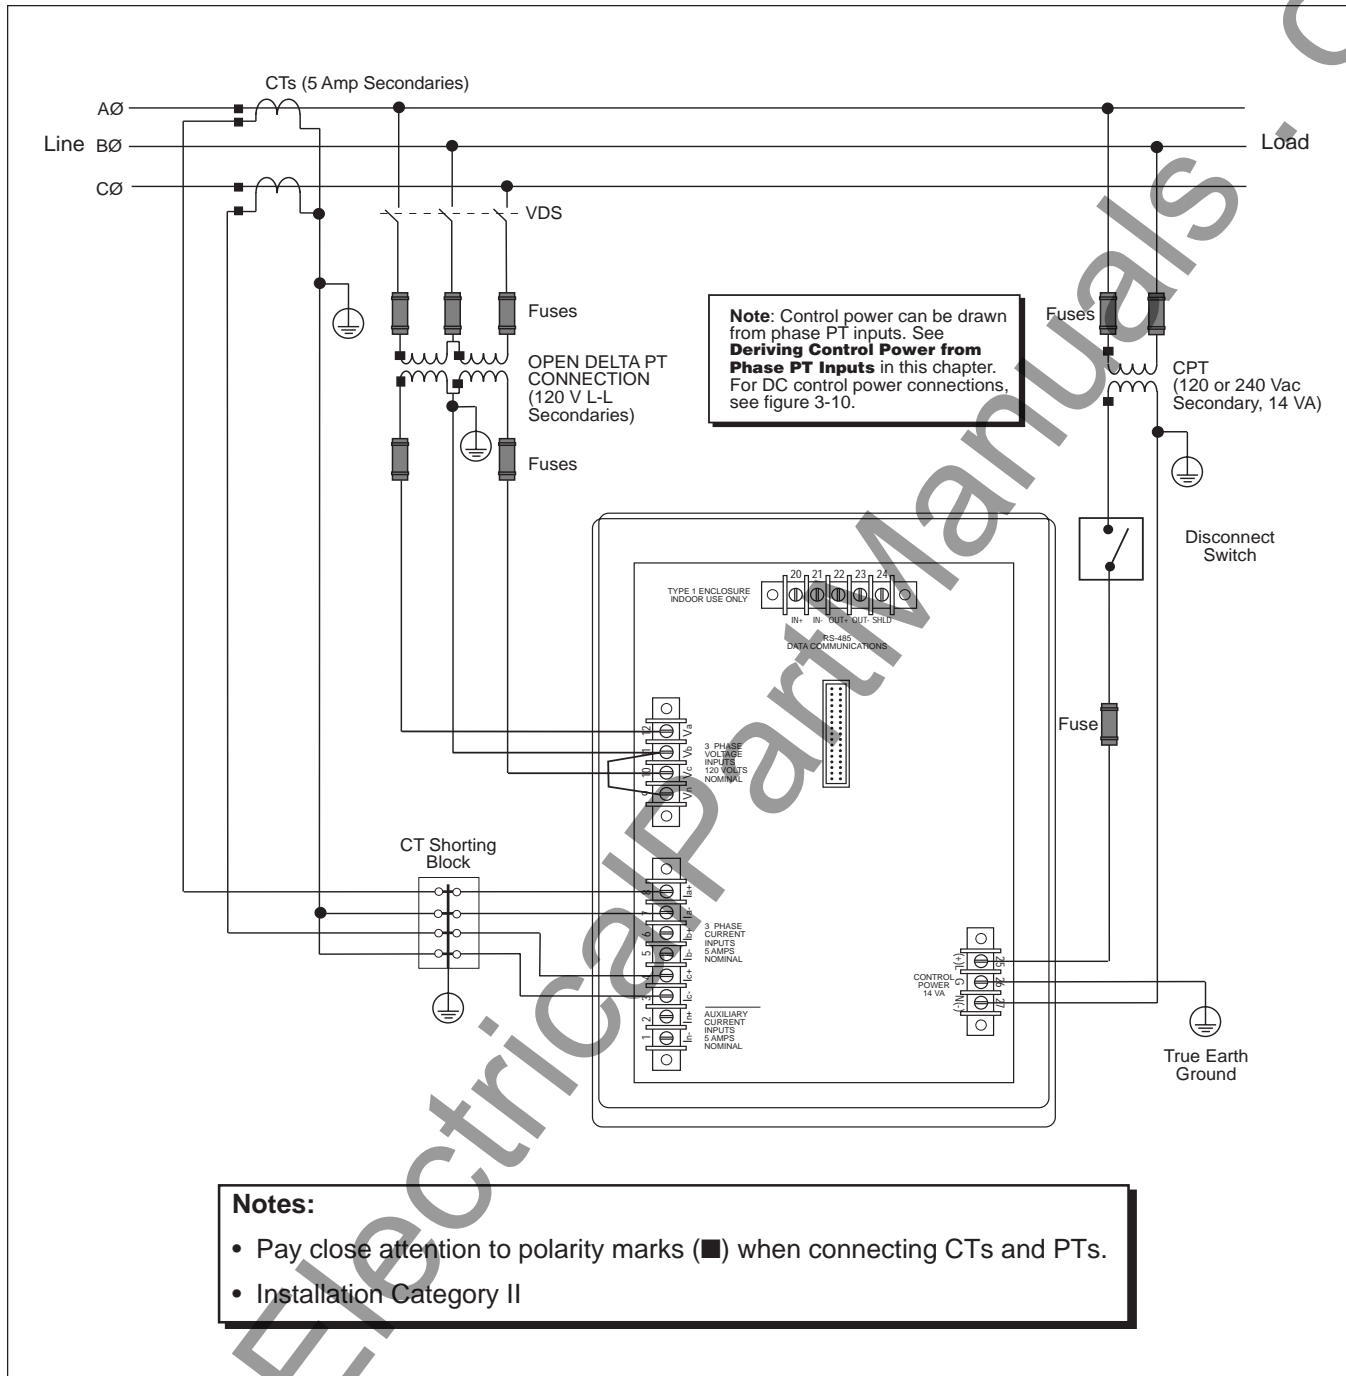
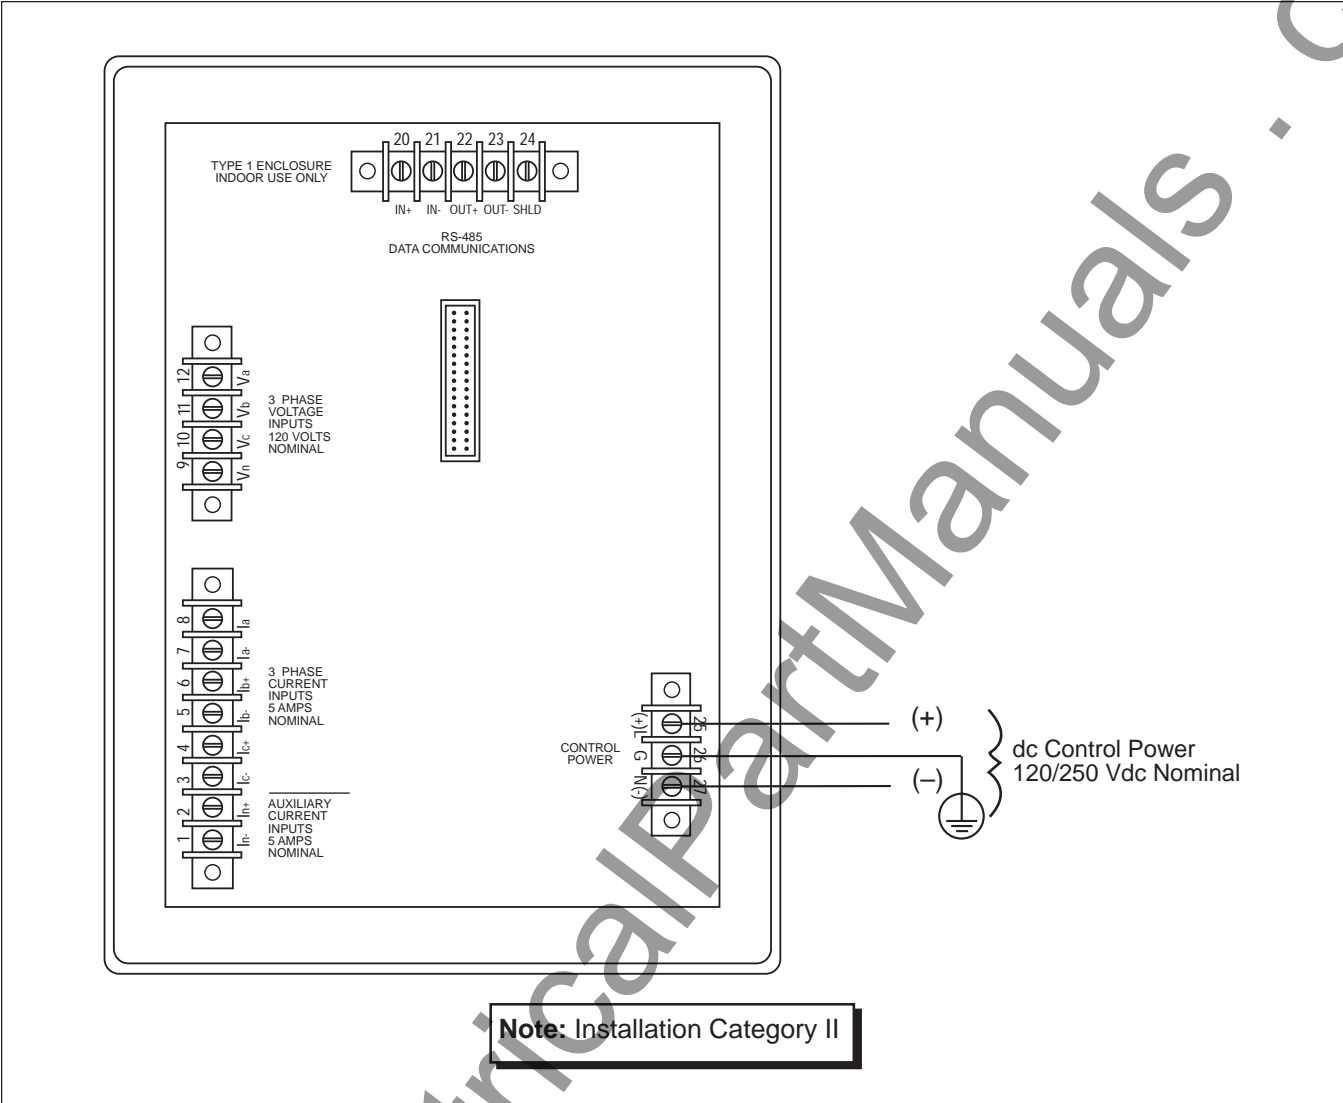

Figure 3-4: 3-phase, 3-wire delta connection
Figure 3-10: DC control power connections
The circuit monitor supports a variety of 3-phase power system wiring connections, including 3-wire delta, and 4-wire wye. Table 3-2 lists the supported system connections. Figures 3-4 through 3-9 show CT, PT, and control power wiring. Figure 3-10 on page 24 shows dc control power.
2. Connect the spade connectors to the circuit monitor terminals as shown in the appropriate wiring diagram. (Figures 3-4 through 3-10 show wiring connections.) Do not overtighten screws, but ensure that they are snug.